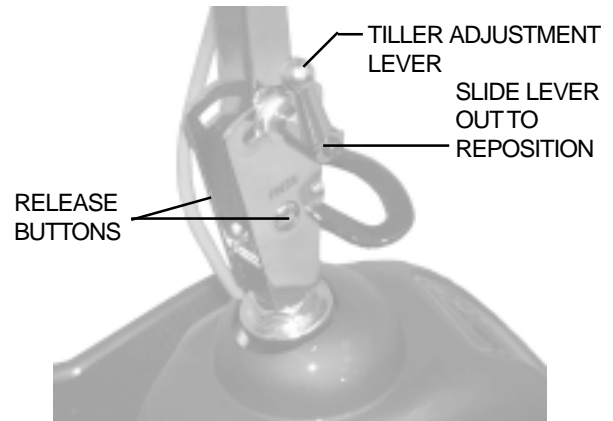

FIGURE 10A. ADJUSTING THE TILLER ANGLE
2. Press the release buttons and move the tiller to a comfortable position. See figure 10A.